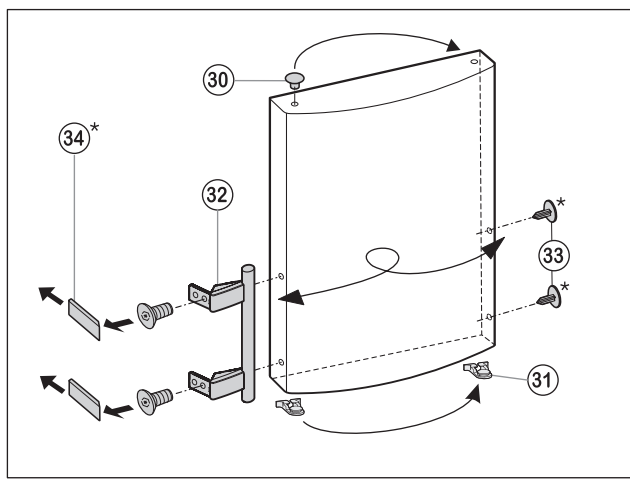

Fig.6
- Lift the stopper Fig. 6 (30) out of the door bearing bush and transfer it.
- Detach door handle Fig. 6 (32), stopper Fig. 6 (33) and pressure plates Fig. 6 (34) and transfer to the opposite side.